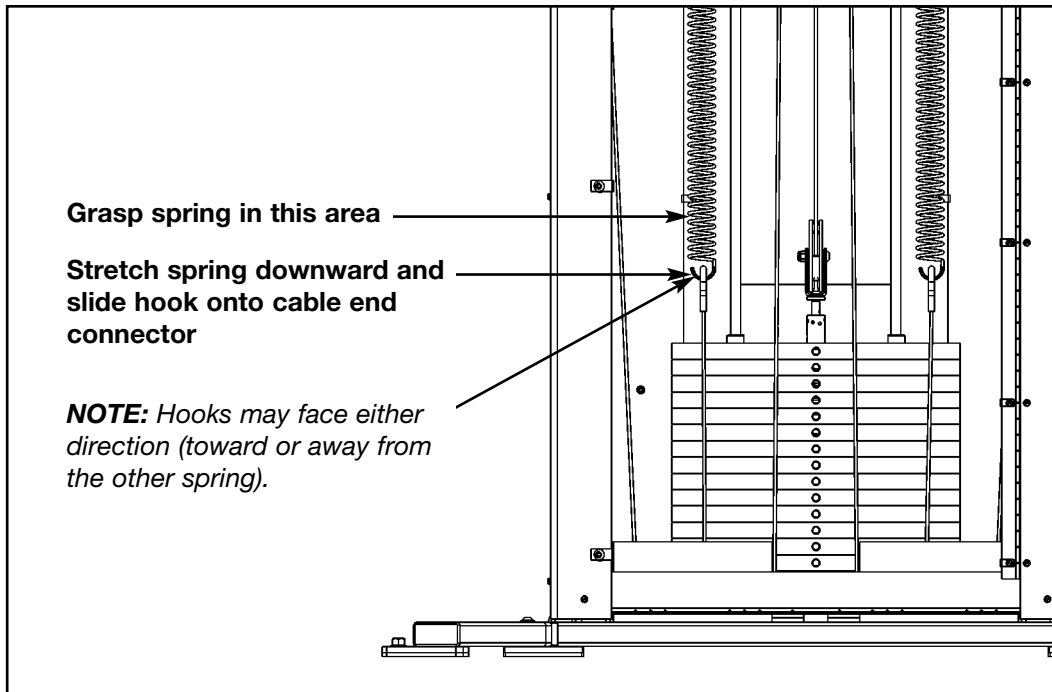

Figure 10
**5. Reconnect lower end of each spring** (refer to steps 5A - 5D and Figure 10).